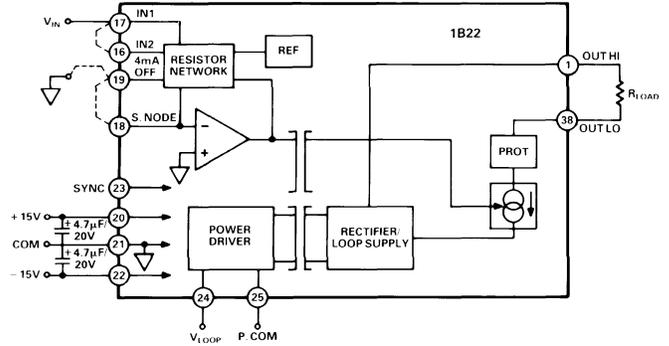
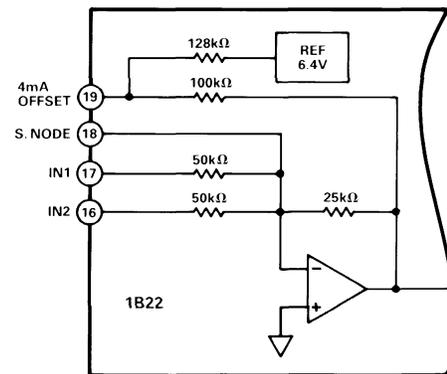

Figure 2. Basic Interconnections
Figure 3. Internal Resistor Network
**Basic Interconnections:** The 1B22 may be applied to achieve rated performance as shown in Figure 2. For 0 V to 10 V signals either IN1 or IN2 can be used for input; for 0 V to +5 V signals jumper IN1 to IN2. Similarly, for 4 to 20 mA operation the 4 mA OFFSET node should be jumpered to the S. NODE, while for 0 to 20 mA it should be tied to COM. Figure 3 shows the functional diagram of the resistor network used in the 1B22.